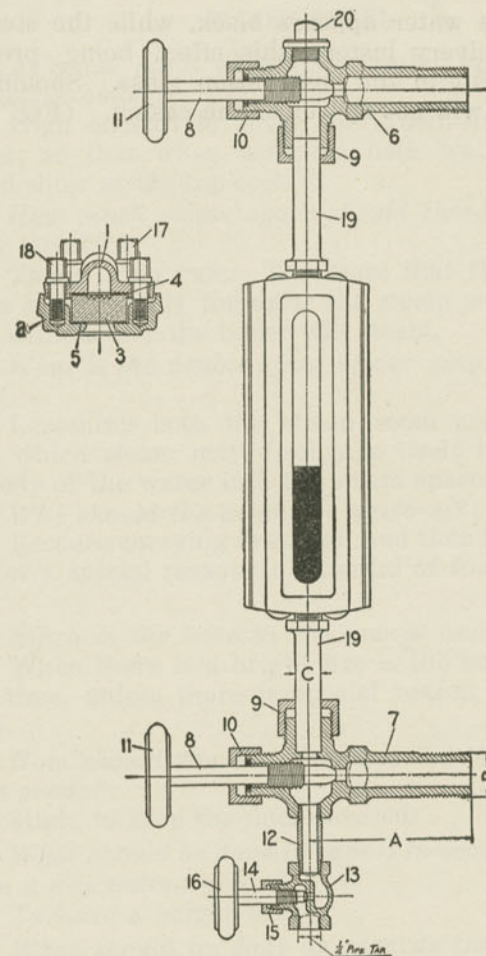

Fig. 101. "Klinger" Gage.
A. The water appears black, while the steam shines with a silvery luster; this effect being produced by grooves cut in the observation glass. Should the tube break, it will not fly out of the casing. (Fig. 101.)